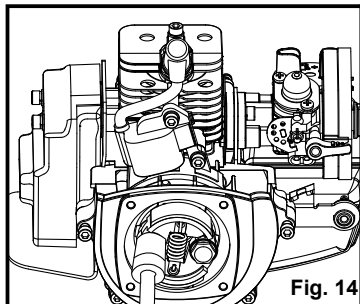

Fig. 14
- Unscrew the bolts on the clutch assembly using an impact driver or wrench (Fig. 14).